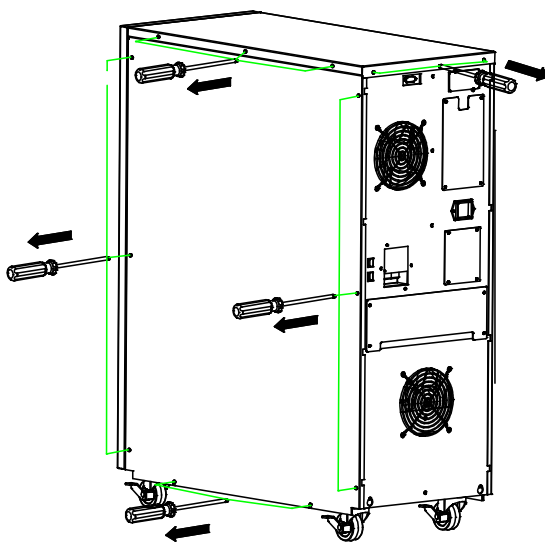

Figure 3.1
STEP 1: Remove all the screws; including those on the opposite side of the case, refer to Figure 3.1